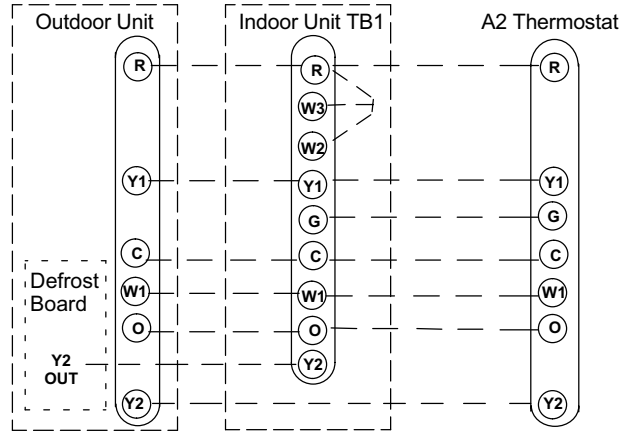

Figure 6
4. Install low voltage wiring from outdoor to indoor unit and from thermostat to indoor unit. See figures 6 through 8.